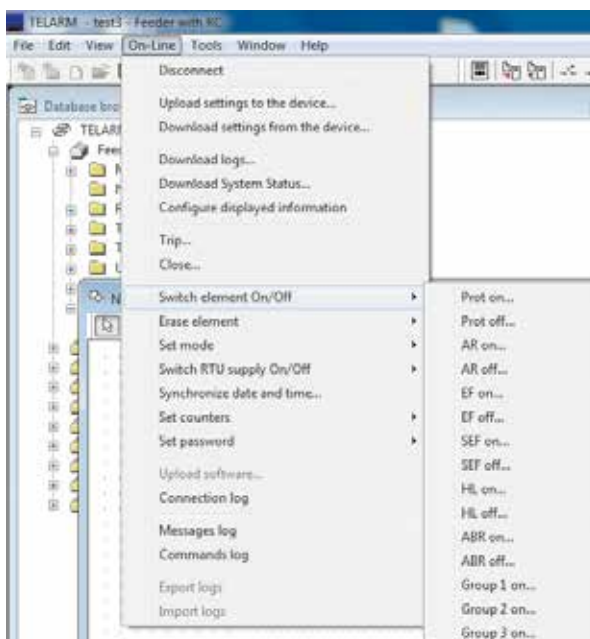

Figure 37
- Switch protection state or particular element¹⁾ ON/OFF (see Figure 37):
- Switch protection state or particular element ¹⁾ ON/OFF (see Figure 37)